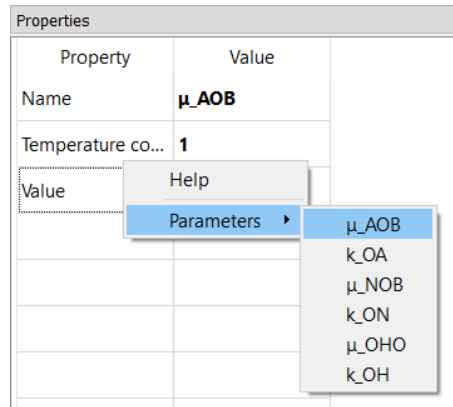

Figure 5.4: Assigning parameters to model properties
8. **Assigning the parameters to the corresponding model properties:** The parameters defined in the previous step should not be assigned to their corresponding properties in the model. Choose the reaction parameter  $\mu_{AOB}$  from **Water quality**→**Reactions**→**Reaction parameters**, and the right click on the label of **Value** property and from the drop-down menu select **Parameters**→ $\mu_{AOB}$  figure 5.4. Repeat for the other parameters to be estimated including  $k_{OA}$ ,  $\mu_{NOB}$ ,  $k_{ON}$ ,  $\mu_{OHO}$ , and  $k_{OH}$ .